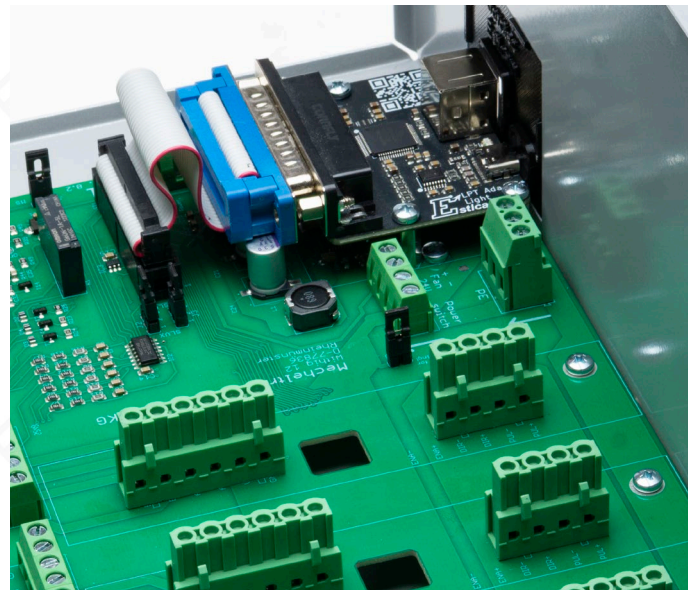

Fig. 10: The mounted adapter module with connection cable
- Connect the adapter module and the motherboard with the connection cable. See Fig. 10.